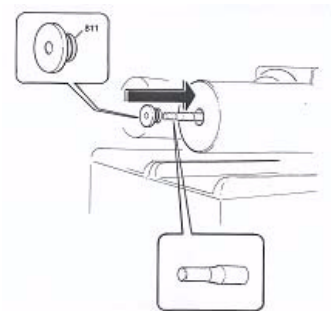

FIGURE 30
2. Insert the brass guide tool on the drive shaft (see Figure 30). Slip the bushing over the guide tool and firmly press into place.